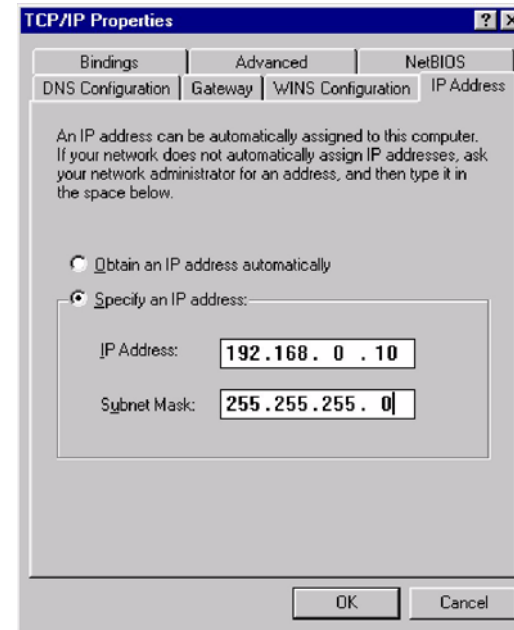

Figure 2 Configuring Network Controller
5. Under the IP Address tab, select **Specify an IP address** radio button (Figure 2).